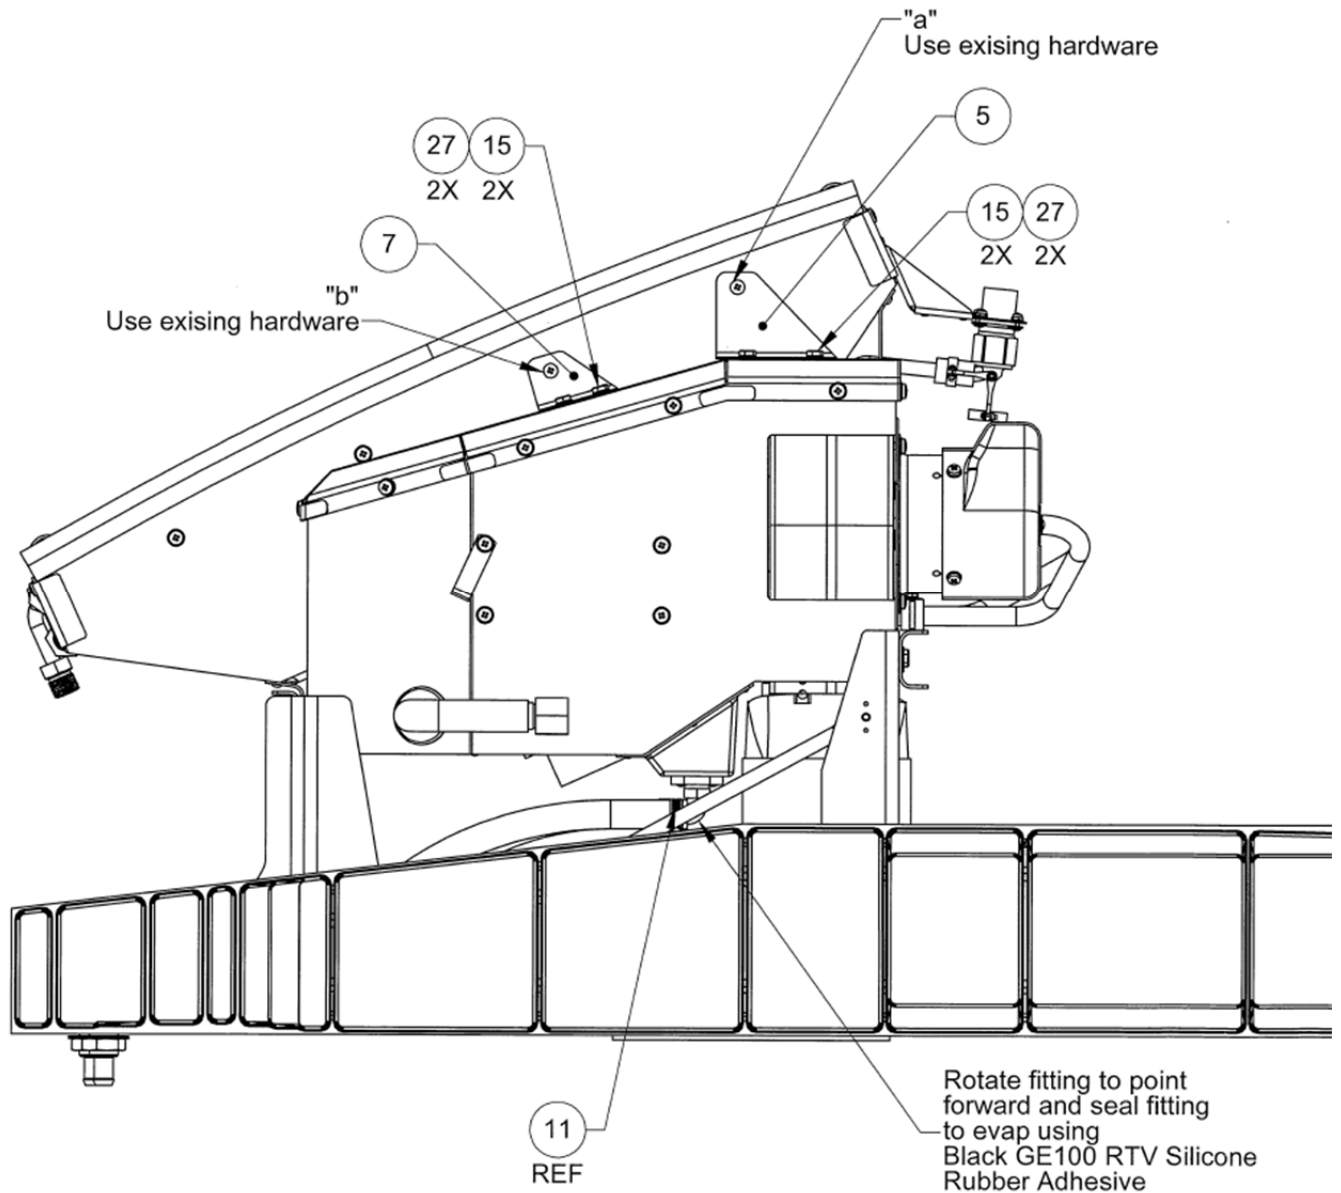

Figure 13: LH Aft Evaporator Installation – View Looking Inboard LH Side
- 5) Position evaporator laterally so that 429EC-7520-12 (Item 5) & -14 (Item 7) mounting brackets are flush against the sides of the condenser. (Figure 13)
- 6) Remove fasteners in condenser at "a" and "b" (both sides). Install mounting brackets 429EC-7520-12 and -14. Pilot drill upper hole in mounting brackets using existing fastener locations in condenser. Open Pilot holes in upper mounting brackets to \varnothing .203/.208. Install mounting bracket to condenser & evaporator as shown. (Figure 13)